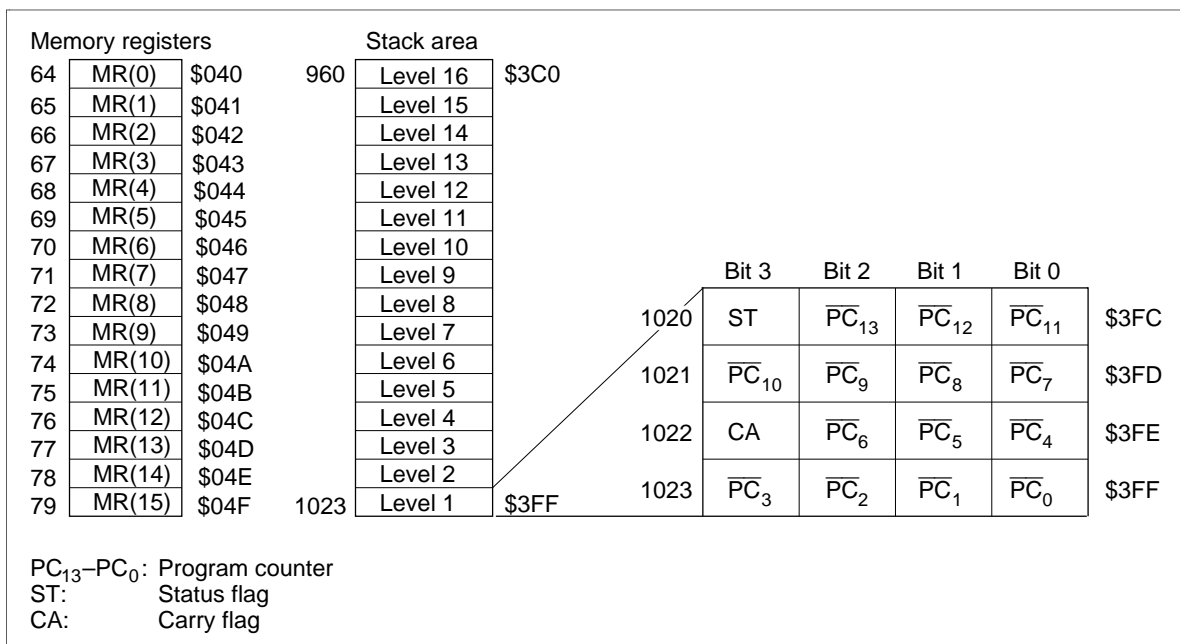

Figure 6 Configuration of Memory Registers and Stack Area, and Stack Position
Memory Register (MR) Area (\$040–\$04F): Consisting of 16 addresses, this area (MR0–MR15) can be accessed by register-register instructions (LAMR and XMRA). The structure is shown in figure 6.
Stack Area (\$3C0–\$3FF): Used for saving the contents of the program counter (PC), status flag (ST), and carry flag (CA) at subroutine call (CAL or CALL instruction) and for interrupts. This area can be used as a 16-level nesting subroutine stack in which one level requires four digits. The data to be saved and the save conditions are shown in figure 6.